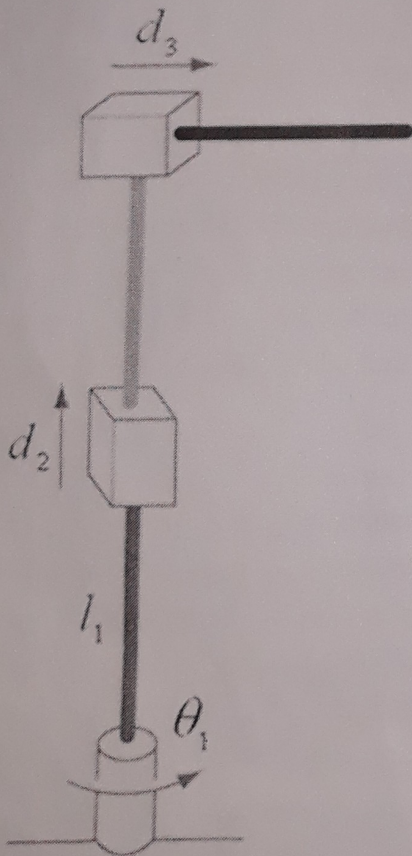

Fig.4.
07. For the given robotic structure in Fig. 4,